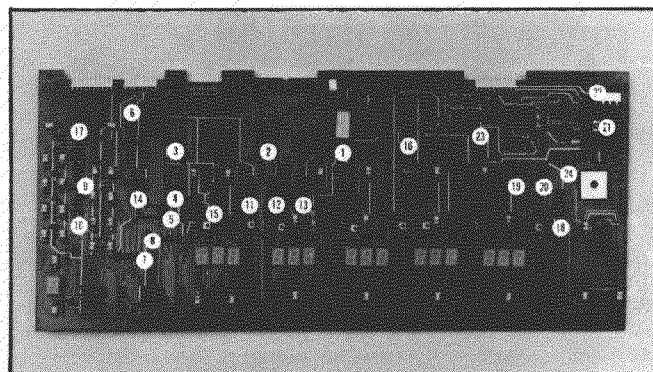

Figure 9. Front view of Main CPU Board.
4.2 Main CPU Board (figure 9)
| Fig. 9 Ref. No. | Description |